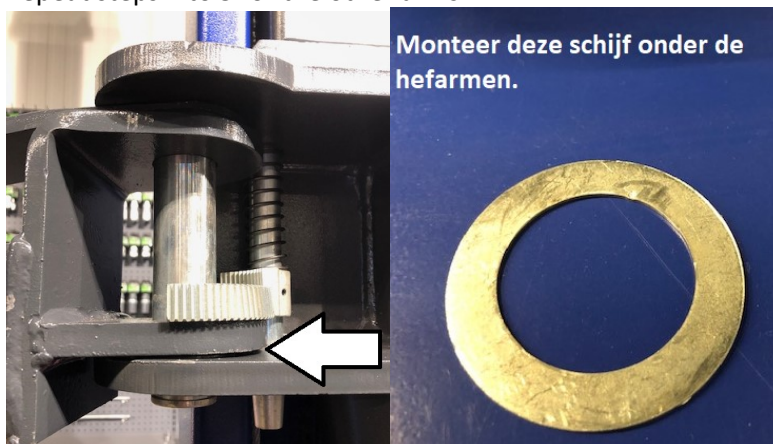

fig.18a
3. Place the arm in the recess in the lifting body and align the holes make sure the ring (Fig.18a) is fitted.